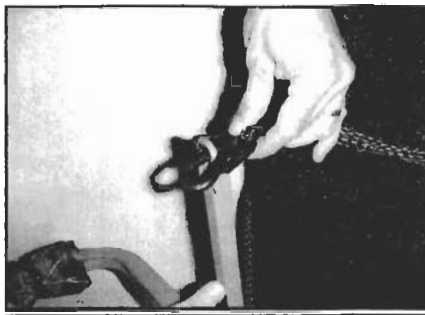

Fig. 16
1. The TrophyChair is designed to attach easily and quietly to trees 8 to 30 inches in diameter. When attaching it to a tree, swing the rope with the 1/4" diameter S-hook on it around the tree, as shown in **Figure 15**. It may be necessary to adjust the rope by pulling on the loose end of the rope to decrease the amount of slack in the rope. Once you have the S-hook in your hand and the rope is around the back of the tree, simply attach the hook to the loop welded onto the top of the TrophyChair, as shown in **Figure 16**. It may be necessary to tighten the rope on the